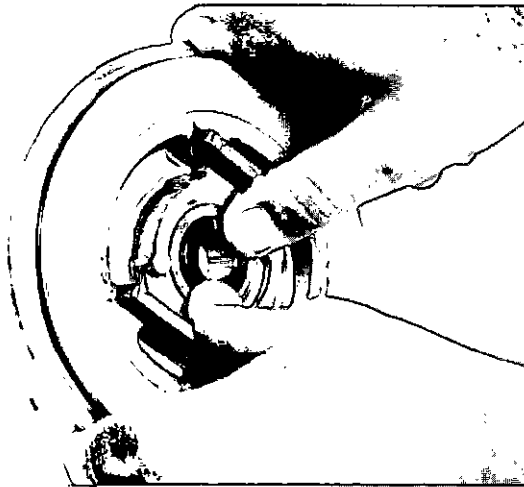

Fig. 4-10, (T465062). Remove the sleeve from the oil seal plate
11. Remove the oil seal sleeve (11) from the oil seal plate (1), Fig. 4-10. Discard the sealing ring.